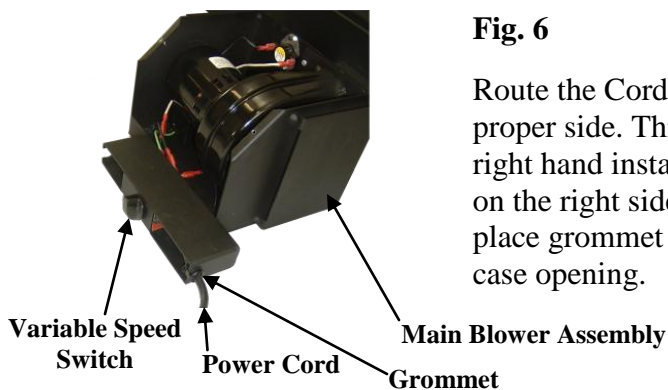

Fig. 6
- **Step 9.** Assemble Cover by sliding the two cover pieces together. Place Variable Speed Switch through hole in cover. Trim ends of Cover to fit into the fireplace opening. Place caps on each end of the Cover, making sure to use Cap with cord cutout on the side where the Cord exits the unit. **(Fig. 6)**